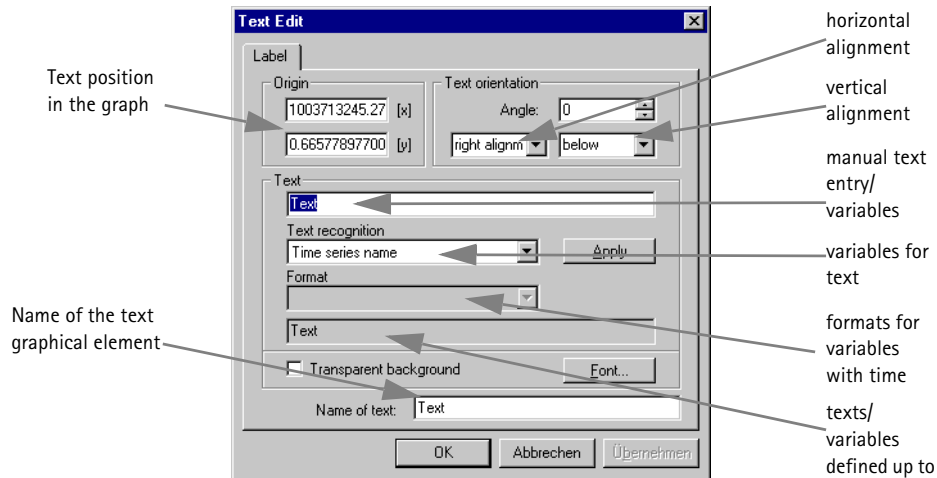

Fig. 183 Defining the layout of the graphical text element
- When inserting a text element, the edit window (see Fig. 183, page 273) will be opened immediately on clicking the left mouse button. In this window you enter your text and specify its layout and formatting see the page 273ff.).²²